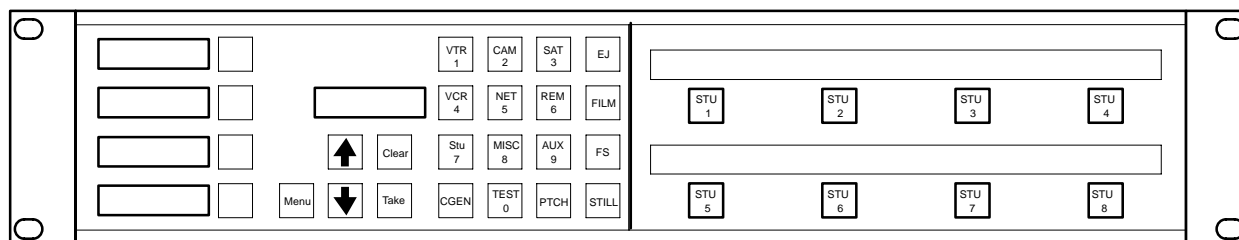

Figure 6-104. CP 3808 with CP 3809 Expansion Panel.
- selecting a destination on the CP 3809 Expansion Panel (if so equipped—see Figure 6-104).